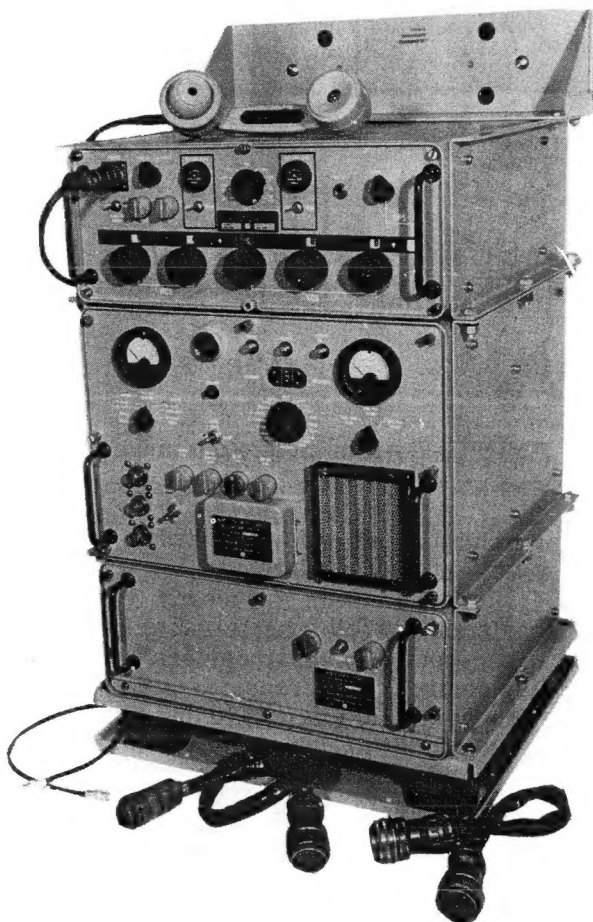

Figure 3-6.—Radio Transmitter AN/URT-23(V) (with 60 hertz power supply).
The AN/URT-23(V) is a long and medium range transmitter which operates as a 1 KW single-sideband transmitter (fig. 3-6). The